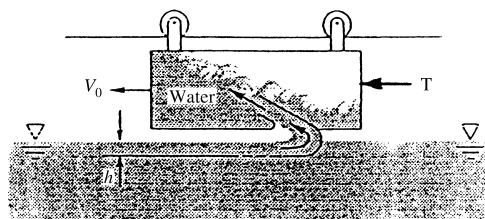

Fig. P3.107
**3.107** The cart in Fig. P3.107 moves at constant velocity  $V_0 = 12$  m/s and takes on water with a scoop 80 cm wide which dips  $h = 2.5$  cm into a pond. Neglect air drag and wheel friction. Estimate the force required to keep the cart moving.